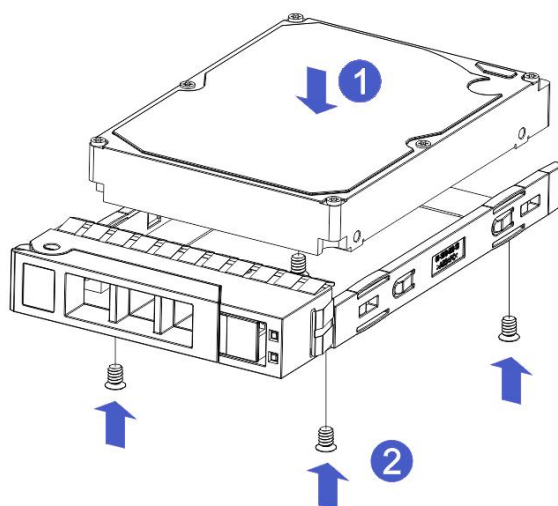

Figure 4.8
2. Lock the hard disk with 4 countersunk screws at the bottom (the screw heads protrude from the bottom of the tray) as shown in Figure 4.8: